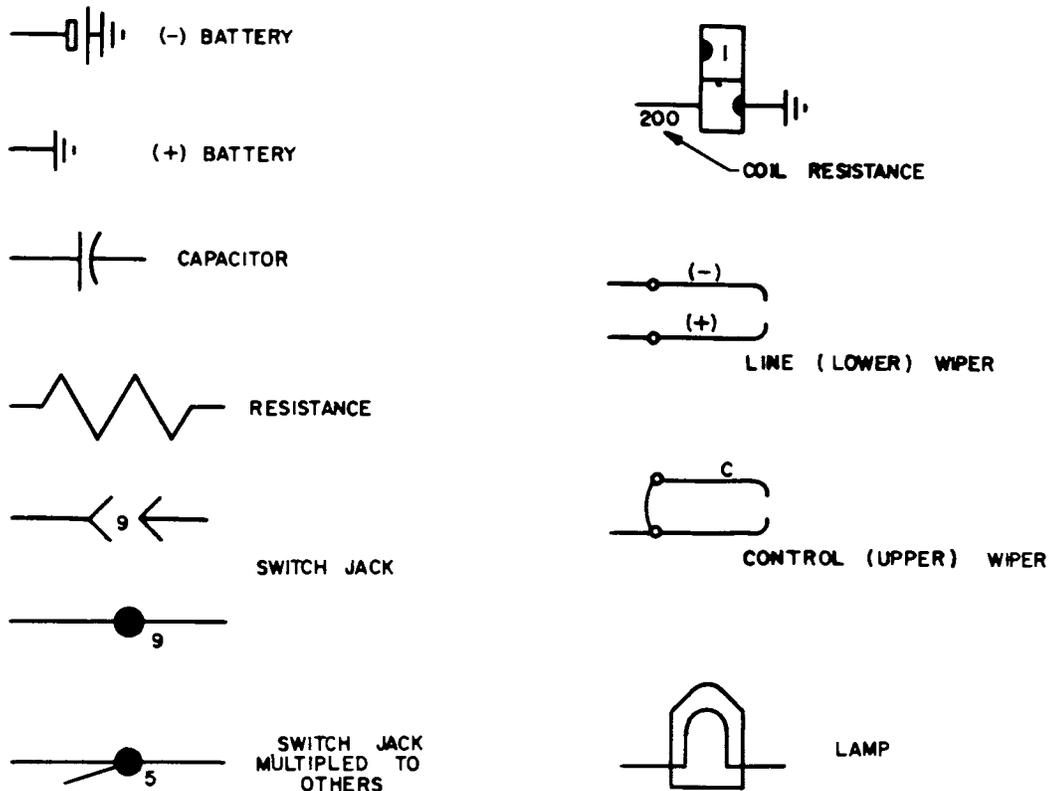

Figure 7. Standard circuit symbols.
- a. See figure 7 for standard circuit symbols.